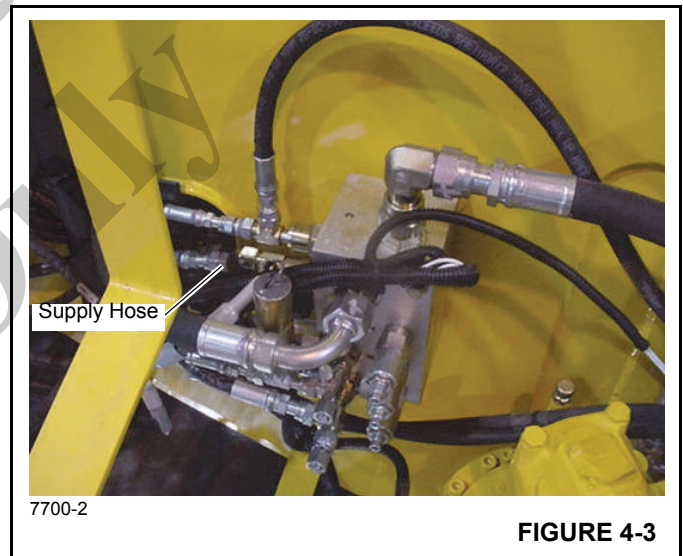

FIGURE 4-3
9. With the engine off, disconnect the hose reel supply line from the side of the valve bank (Figure 4-3). Plug or cap all openings.